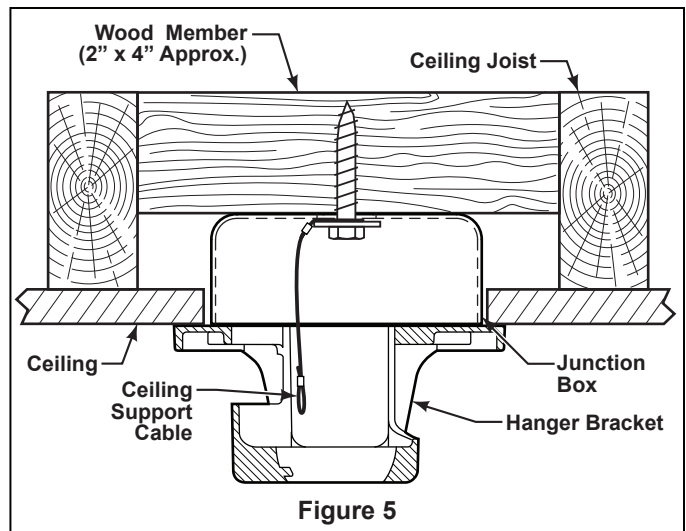

Figure 5
1. Securely attach the ceiling support cable to the ceiling joist or structural member using the $\frac{3}{8}$ " x 2" lag bolt and flat washer. The lag bolt will pass through the flat washer, loop of the ceiling support cable, the outlet box and into the supporting member (Figure 5). You will first drill a $\frac{1}{4}$ " pilot hole into the supporting member to prevent splitting or cracking.
NOTE: Ceiling support cable must be fastened between flat washer and junction box (Figure 5).